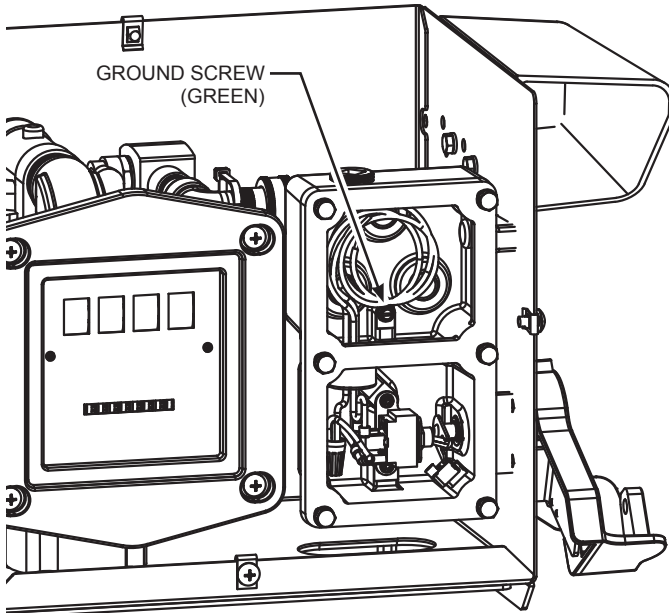

Figure 5
1. To access the junction box inside the dispenser, remove top cover then remove the front panel. Remove the junction box cover (see Figure 5).